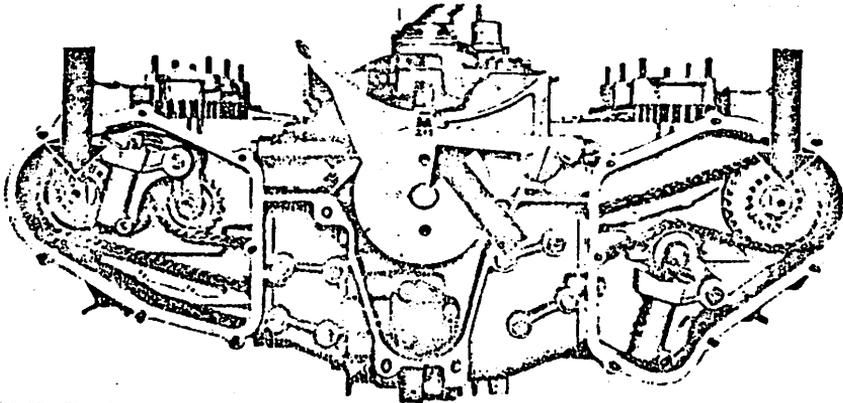

FIG 1:20 Checking valve timing. Outer arrows point to camshaft markings, central arrow to pulley mark Z1 aligned with crankcase joint
7. Using a 19 mm wrench on the crankshaft pulley, turn the engine to TDC on cylinder #1. The Z1 mark on the pulley is at the engine seam, and the distribution body. This will let you make sure that the camshaft timing remains correct. (See figure 1:20)
8. A tool with a right angle bend, a pair of needle nose pliers, or, if you're lucky, your fingers can be used to pry off the outer two rails (number 1 & 4 on figure 1:16). BE CAREFUL not to drop the rails into the engine or you will have a real fishing expedition. The rails can be removed through the oil strainer if you've drained the oil, but it won't be fun.